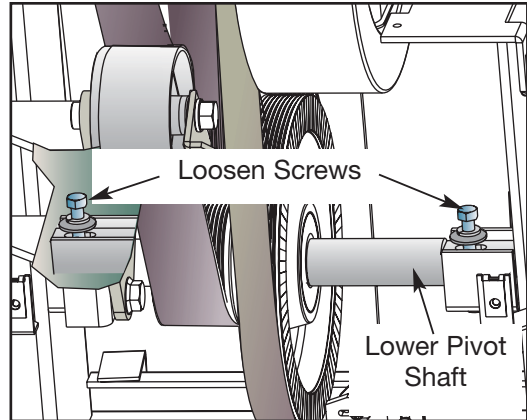

Figure 15
- A. Using a 7/16" socket wrench, loosen the two screws on the lower pivot shaft until the screws are raised 1/2" (1.25 cm) above the screws on the lower pivot shaft. See Figure 15. **NOTE: The drive belt tension is now released.**